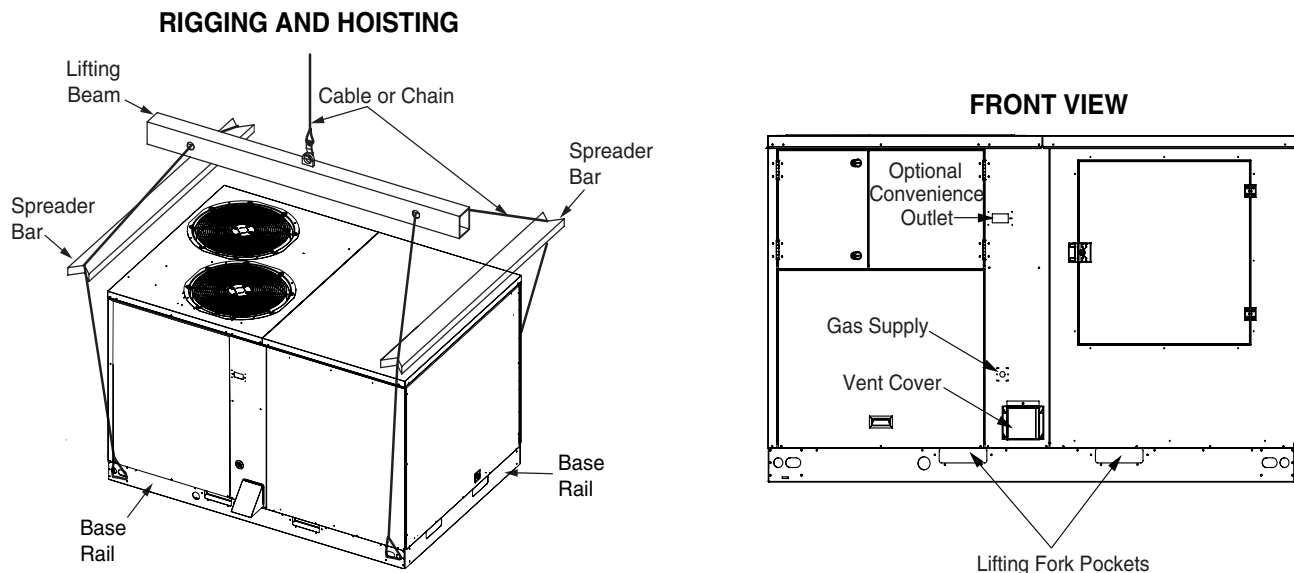

Figure 7. Lifting
- The unit must be lifted from the holes in the base rails using cables or chains (see Figure 7).
- Spreader bars are required to protect the unit and to ensure even loading (see Figure 7).